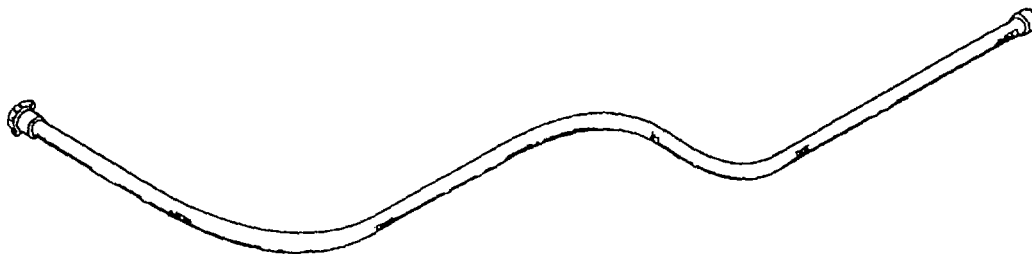

Figure 1-8. Collapsible Hose
- (11) COLLAPSIBLE HOSES (Figure 1-8). The 6 in. X 500 ft, lightweight, collapsible rubber hoses transport water up to 10 miles from source. Interconnect TWDS components. Equipped with 6-inch boltless couplings for interconnection.